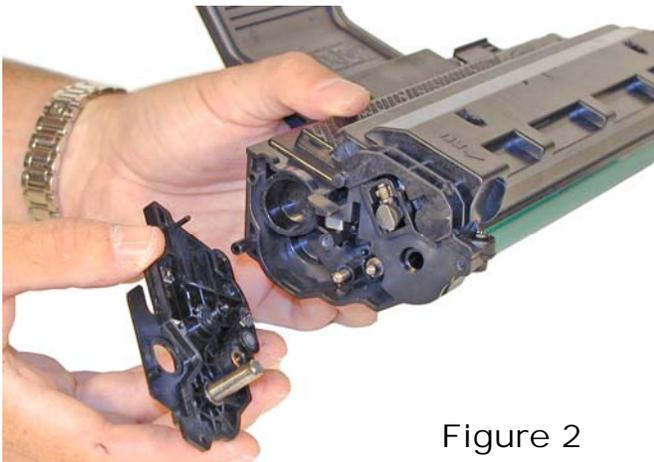

Figure 2
2) Gently pry off the left end cap. See **Figure 2**